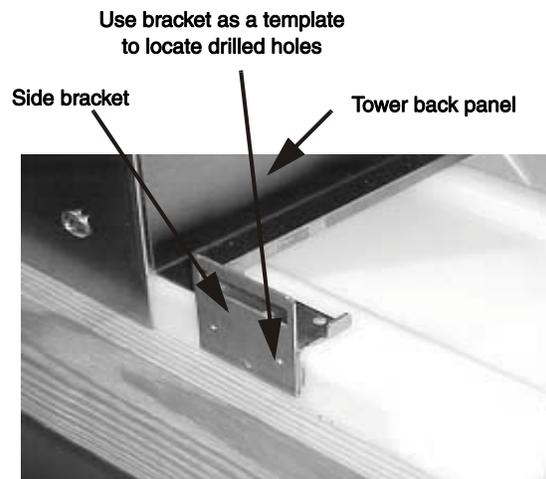

Figure 2.
2. Position side brackets by placing the bracket against the tower back panel, both sides. Be sure that brackets do not interfere with removal of the tower back panel (see Figure 2).
3. Drill 1/8" holes using the brackets as a template (see Figure 2).